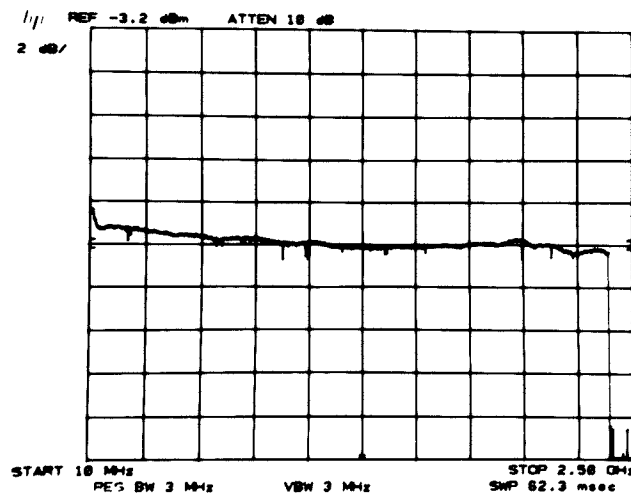

Figure 4-22. Frequency Response Measurement (10MHz to 2.4 GHz)
34. Adjust analyzer REFERENCE LEVEL, if necessary, to place peak of sweep oscillator signal near mid-screen. Press the FULL SWEEP button on the sweep oscillator and TRACE A MAX HOLD on the analyzer. Wait about two minutes for the trace to fill in as in Figure 4-22.